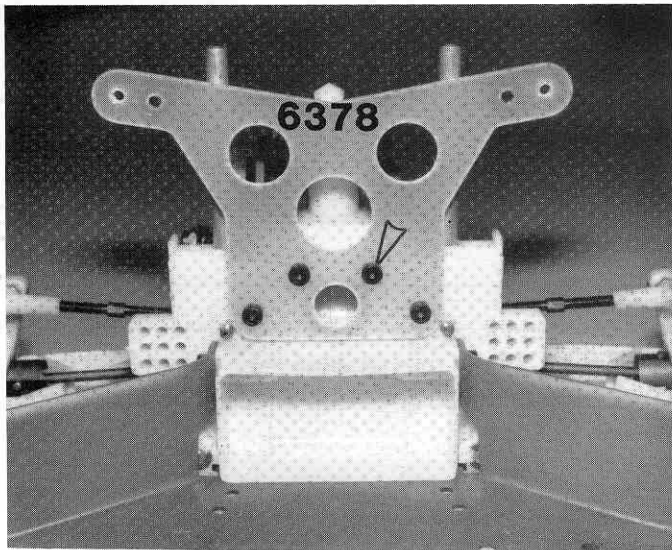

Fig. 112
□ **Fig. 112** Also in Bag #6-4 is the #6378 rear shock strut. Assemble this to the rear bulkhead with the four #6932 4/40 x 5/16" SHCS Allen screws, as shown.